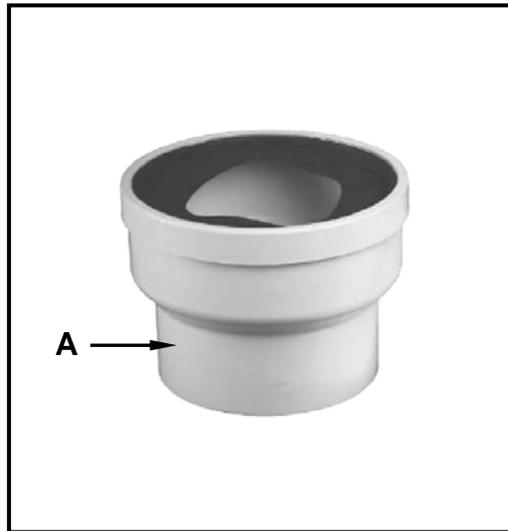

FIGURE 6.3
- 6.3 FIGURE 6.3 below shows a fitting that is used in a drainage system.